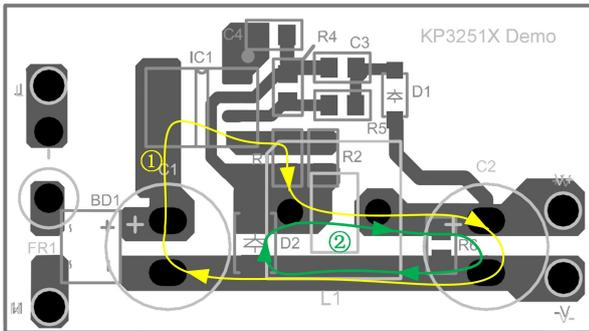

Fig.2
(1) Power Loop Routing:
As shown in fig.2, minimize the power loop area of ① and ② as small as possible. Power loop ① is formed by input capacitor–IC–inductor–output capacitor. Power loop ② is formed by inductor–output capacitor–freewheeling diode. Make sure these two loop area reduce to its minimum.